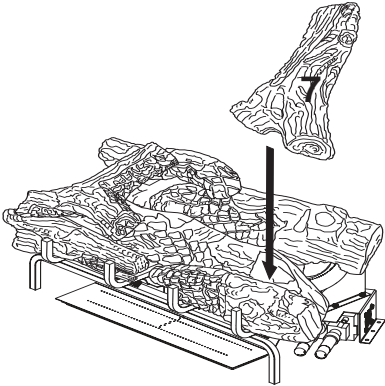

Figure 34 - Installing Log # 7
7. Place the right crossover log (#7) on top of the middle log and rear log as shown in Figure 34, page 21. Match the round peg on the top of the rear log with the round hole on the bottom of the right crossover log and square peg on the top of the middle log with the square hole on the bottom of the right crossover log.